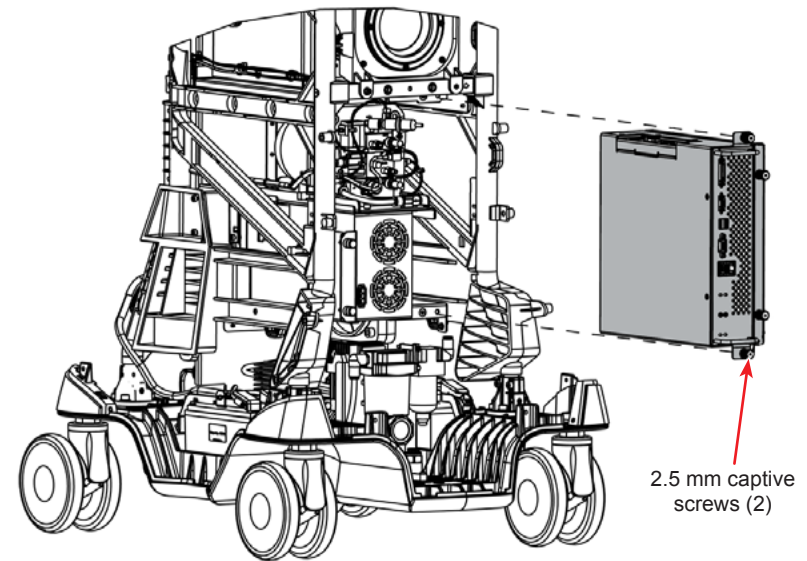

Figure 3-26 Host Module Removal
- 26.5 Loosen two 2.5 mm captive screws securing Host Module to chassis (see Figure 3-26).